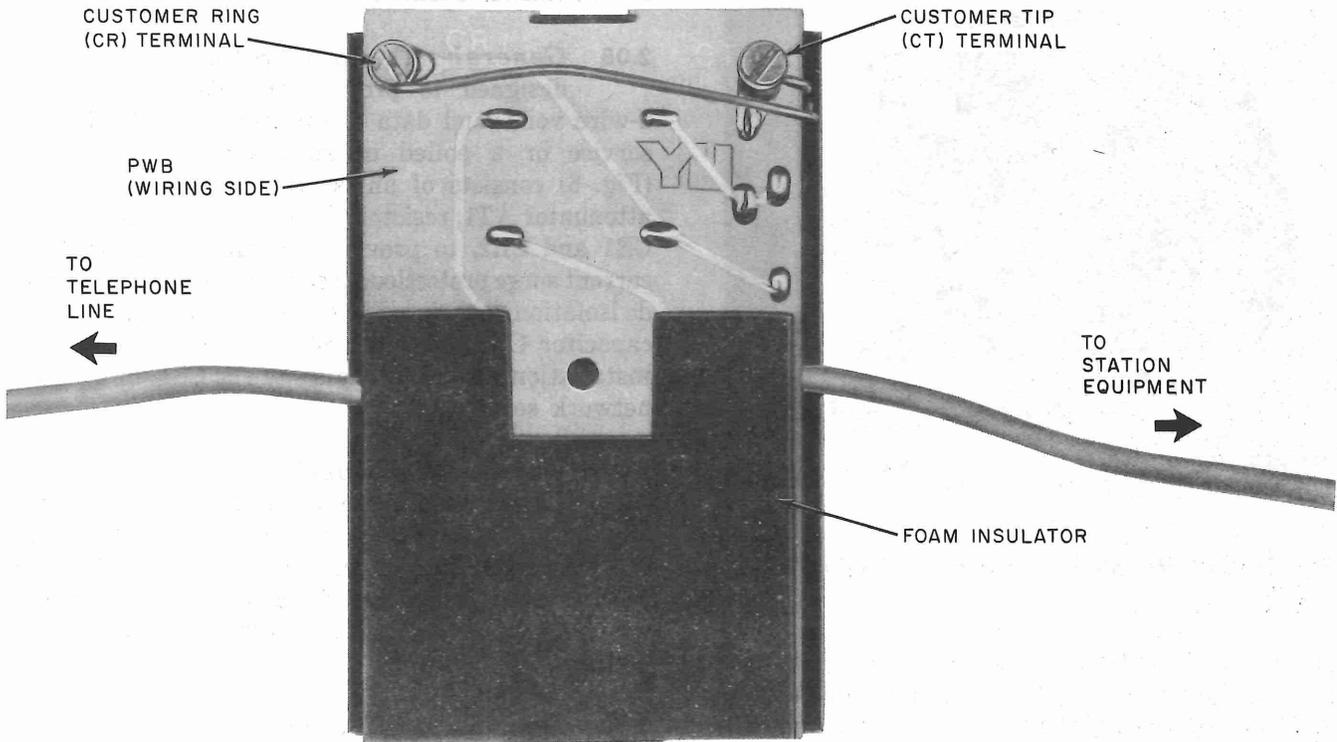
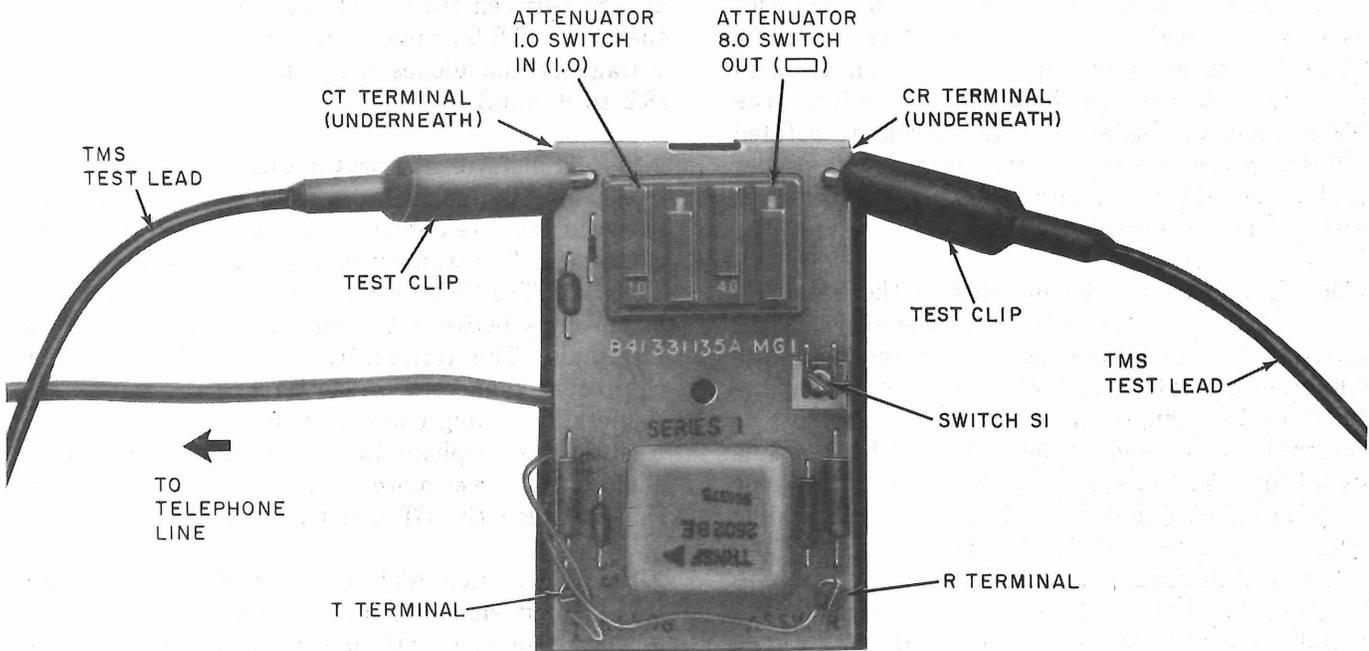

Fig. 4—150A CSU With PWB Inserted for Normal Operation
Fig. 5—150A CSU With PWB Inserted for Maintenance
2.06 The PWB can be inserted in the baseplate by placing one of the keying notches in the PWB in the proper keying tab on the baseplate while pulling out on the other tab, permitting the PWB to be snapped into place. The process is reversed for removing the PWB. The PWB is installed in the baseplate with only the customer tip (CT) and customer ring (CR) terminals accessible with cover removed (Fig. 4). However, the PWB can be *temporarily* inserted in the baseplate with the tip (T) and ring (R) terminals accessible during installation and maintenance (Fig. 5).
Do not remove the foam insulator (Fig. 4) from the PWB. This insulator is provided to prevent contact with the telephone line printed wiring circuits.
- (6) Temporarily insert the PWB in the baseplate with the T and R terminals and the attenuator switches accessible (Fig. 5).
- (7) Using an ohmmeter, ensure that switch S1 on the PWB is closed before proceeding. (Screw switch S1 is shipped in the closed position.) A reading of approximately 86 ohms between the T and R terminals indicates that S1 is closed.
Refer to Fig. 5 for routing of telephone line T and R leads before performing Step (8).
- (8) Leaving enough wire length for the PWB to be repositioned so that the CT and CR terminals are accessible (Fig. 4), connect the T
- (17) Using a nearby telephone, request that the CO 1-kHz, 1-milliwatt tone be removed from the telephone line to the CSU. Proceed to Step (22).
- (18) Connect the TMS between the CT and CR terminals of the PWB. Set TMS for a 600-ohm terminated measurement.
- (19) After the telephone line is connected in Step (8) above, allow switch S1 to remain closed for at least 10 seconds before proceeding. While observing the TMS, loosen (about one complete turn) the screw in switch S1 (Fig. 5)
- (25) Disconnect the TMS from the CT and CR terminals of the CSU.
- (26) Using care not to change attenuator switch settings, reposition the CSU PWB in the baseplate so that the CT and CR terminal screws are accessible (Fig. 4). The telco employee will not connect the customer interface leads to the CSU unless requested by and under the direction of the customer.
- (1) On the CSU, loosen the captive screw located in the center of the plastic cover and remove the cover.
- (2) Disconnect the station equipment line from the CT and CR terminals on the CSU.
- (3) Reposition the CSU PWB in the baseplate so that the attenuator switches are accessible (Fig. 5).
- (4) For 2-wire PL service, perform Steps (13), (14), and (15) in 3.03. The TMS reading should be within ± 1 dB of the signal level recorded on the CLRC. For a polled network service, perform Steps (10), (18), (19), and (20)